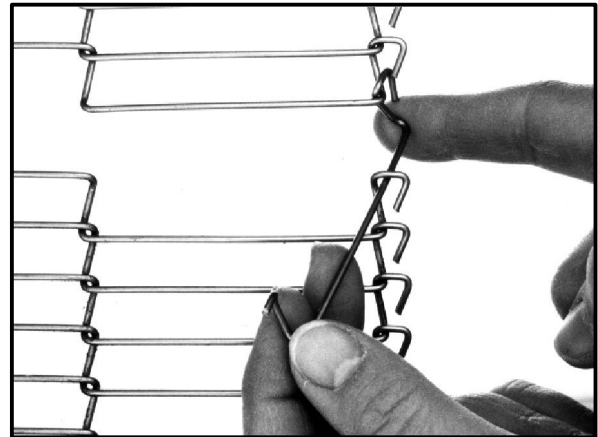
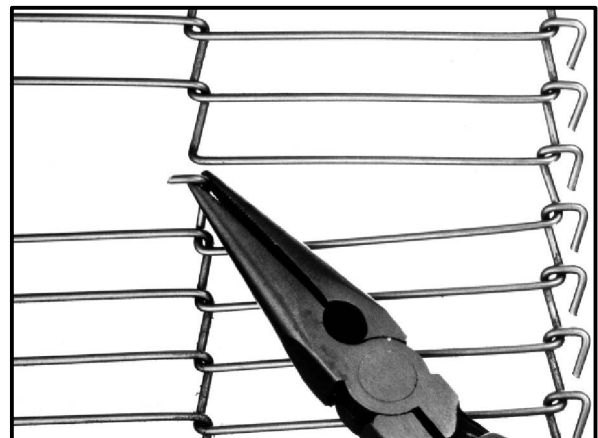

Figure 14
Figure 15
5. Install the outer master links. See Figure 14 and Figure 15